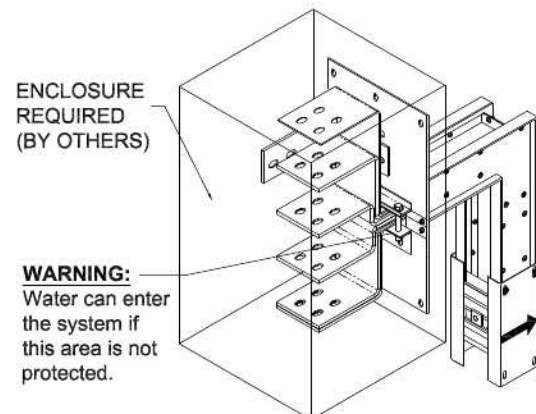

Figure 25. Enclosure Requirements
10.1 When mounting a flanged end busway section on an enclosure, all required mounting hardware, gaskets and caulk are to be supplied by the installer. (Figure 25)
10.3 Busway flanges or busway sections that are not supplied with an integral enclosure for the bus or cable connections must be protected from mechanical damage and ingress of contaminants by a suitable enclosure provided by the installer (Figure 25).